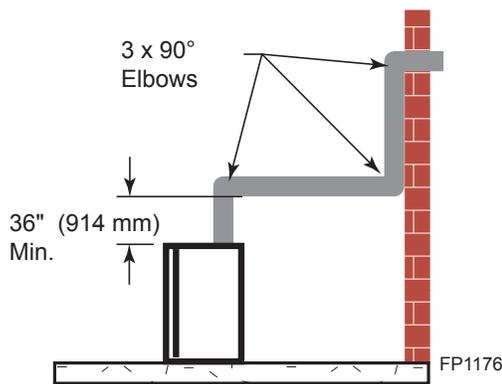

Figure 18 -
- The maximum number of 90° elbows per side wall installation is three (3). *Figure 18*